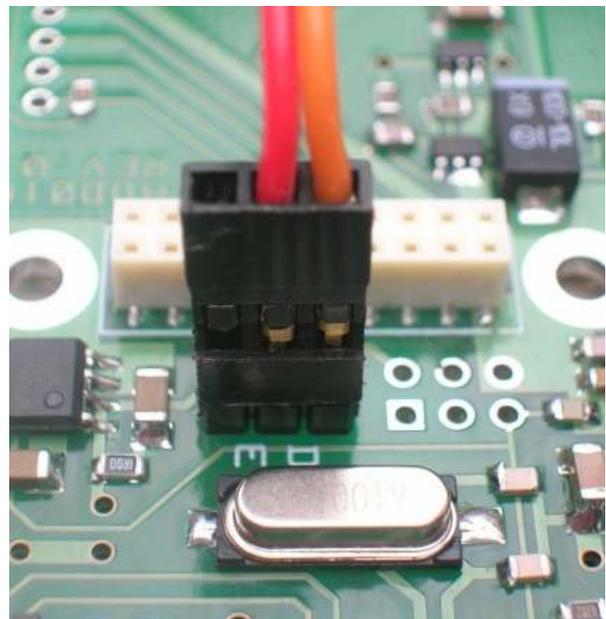

Fig. 8: Connecting autopilot telemetry for better pan and tilt performance
If you are connecting your Attopilot this way, then just pull the earth wire out of the telemetry cable and plug the modified telemetry cable into the status reporting header as shown in figure 8. (You still need to put a jumper across the TTL Autopilot Interface "I" and "O" pins.)
4. Connect a female-female servo cable between the Failsafe and the ServoStation. This cable plugs in to the external power header on the Failsafe (seen on the right in figure 8), and into any one of the servo outputs on the ServoStation. If all 8 servo outputs are already in use, the cable may be "Y" connected into one of them.